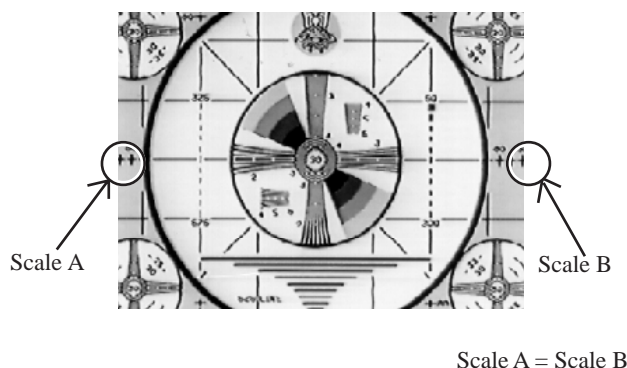

Fig 2-3
- (2) As is shown in Fig. 2-3, make adjustments with SFR301 so that the scales on both sides of the screen are the same.